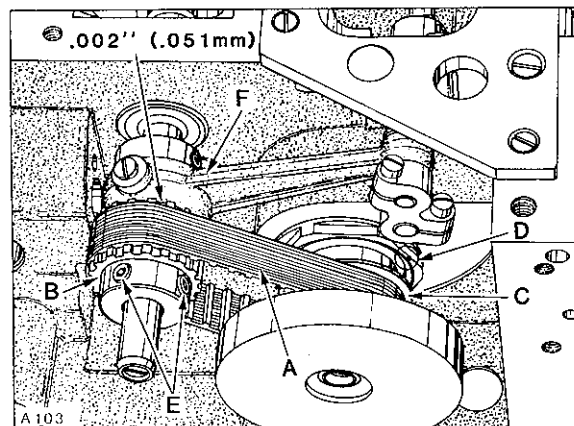

Fig. 4
NOTE: End cover has been removed for clarity in Figure 4, but MUST BE IN POSITION WHILE MAKING THE FOLLOWING ADJUSTMENTS.
Looper drive belt (A, Fig. 4) has proper tension if, when turning handwheel in operating direction to position looper in the center of its (right to left) travel ... there is no noticeable (right to left) play in the looper mechanism. There should be approximately 1/8 inch (3.2mm) deflection in looper drive belt when pressing firmly with thumb, midway between sprockets (B and C). Adjustment can be made by loosening two screws (A, Fig. 5) and turn looper module (D, Fig. 4) counterclockwise to tighten belt or clockwise to loosen, as viewed in Figure 4. Retighten screws (A, Fig. 5).
Rotate handwheel in REVERSE direction until pin in looper holder again makes contact with gauge plate and note the reading on the gauge. A variation of (1) graduation on the scale is permissible. If the reading is above "0", loosen screws (E, Fig. 4) and turn rear looper drive sprocket (B) towards the operator (clockwise as viewed in Figure 4). If the reading is below "0", turn sprocket away from operator (counterclockwise as viewed in Figure 4). Temporarily snug screws.
Rotate handwheel in OPERATING direction until pin in looper holder contacts gauge plate and note the reading on scale. If the reading is above "0", loosen screws (E) and turn sprocket (B) away from operator (counterclockwise as viewed in Figure 4). If the reading is below "0", turn sprocket towards the operator (clockwise as viewed in Figure 4). Temporarily snug screws.
side of RIGHT needle and check the distance from the eye of needle to the bottom of looper blade. If the distance was greater when handwheel was turned in operating direction, as shown in Sketch B, loosen screws (E, Fig. 4) and turn rear looper drive sprocket (B) away from operator
directions until the distance from the eye of the right needle to the bottom of looper blade is the same in either direction, as shown in Sketch D. Before tightening screws (E, Fig. 4) securely, be sure to have .002 inch (.051mm) clearance between sprocket (B) and needle guard drive connecting rod (F).
(counterclockwise as viewed in Figure 4). If the distance was greater when handwheel was turned in reverse direction, as viewed in Sketch C, turn sprocket towards the operator (clockwise as shown in Figure 4). Temporarily snug screws. Continue to check and adjust in both OPERATING and REVERSE